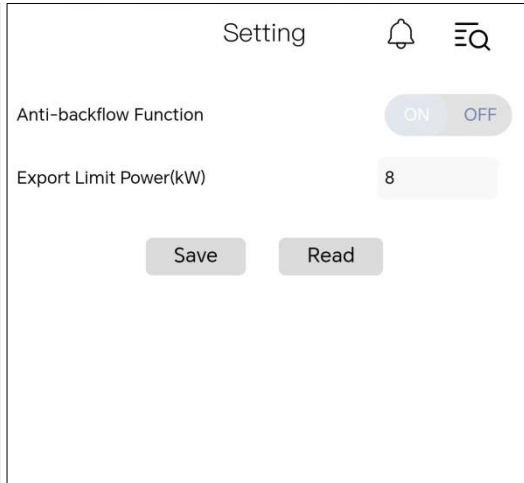

Figure 4-21
- 4) Set up the export limit power, and click 'Save'. Refer to Figure 4-21. Add the inverter operation in the Renac SEC can refer to the ST-WIFI-G2 user manual.